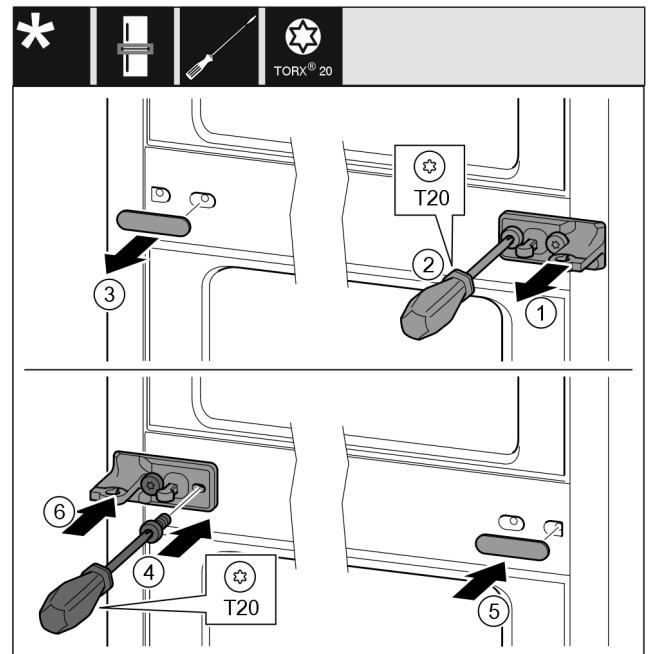

Fig. 14
- Pull off the washer Fig. 14 (1).
- Turn out the screws Fig. 14 (2) with the screw driver.
- Carefully pull off the cover Fig. 14 (3).
- Tightly screw on the swap bearing block with film Fig. 14 (4) on the other side turned by 180°.
- Attach the cover Fig. 14 (5) on the other side turned by 180°.
- Press on the washer Fig. 14 (6) from the front.